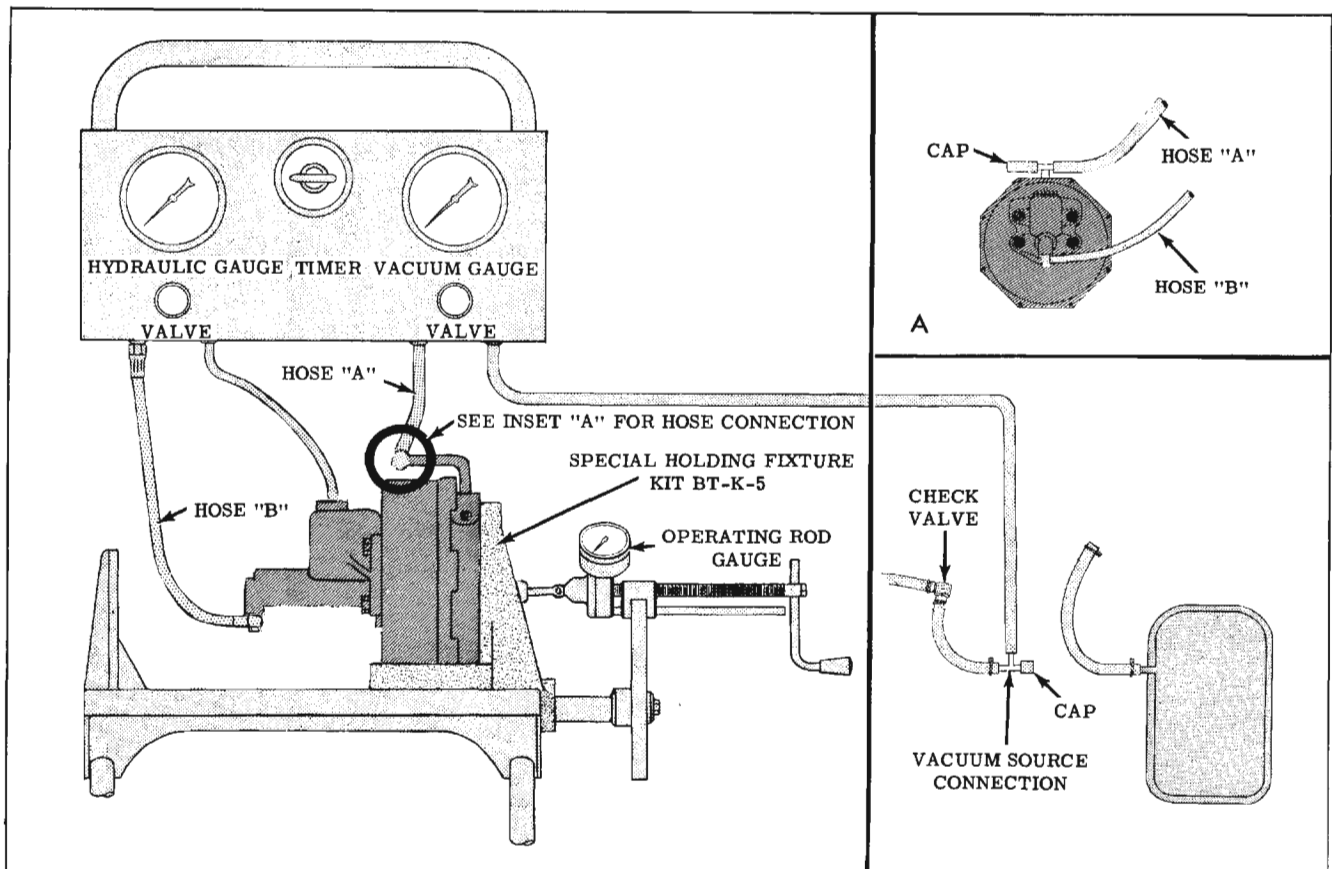

Fig. 7-36 Hose Connections (Testing on Test Stand)
4. Connect tester hoses as shown in Fig. 7-36.
1. With tester hoses connected as shown in Fig. 7-36, open the vacuum gauge valve. With the engine on slow idle, the gauge, should read 19" to 21".
1. With tester hoses connected as shown in Fig. 7-36, open the tester vacuum gauge valve. With the engine running at slow idle, the gauge should read 19" to 21".
1. With tester hoses connected as shown in Fig. 7-36, close the vacuum gauge valve and operate the brake operating rod until vacuum gauge drops to zero.
With the tester hoses connected as shown in Fig. 7-36, the test is made with the engine running at slow idle, the vacuum gauge valve open and the hydraulic gauge valve closed. The vacuum gauge should read 19" to 21".
Check No. 1 (Fig. 7-36)